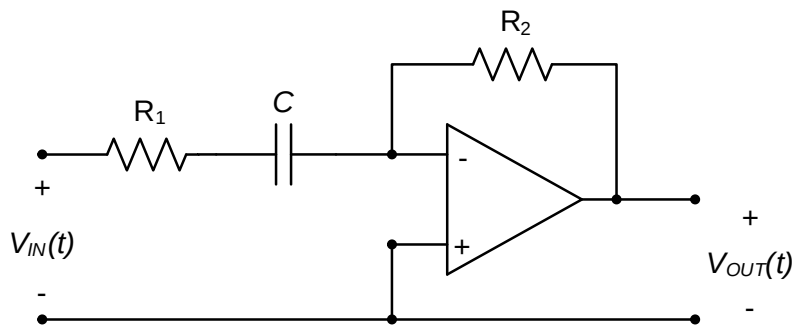

Figure 1. Inverting high-pass filter circuit.
- Input resistance: the input resistance is the ratio of input voltage to input current for a circuit. In the circuit of Figure 1, the input resistance is dependent upon both the capacitance and the frequency. However, at high frequencies, the capacitor behaves like a short circuit, and the input resistance is essentially the resistance R_1 .
- High frequency gain: the high frequency gain (the gain as $\omega \rightarrow \infty$) is, from equation (2), the ratio of R_2 to R_1 . Once R_1 is determined from the input resistance requirement, the high frequency gain specifies the required value for R_2 .
Design the circuit of Figure 1 (e.g. choose values for R_1 , R_2 , and C) to meet the following design requirements:
Determine the response of the circuit of Figure 1 to a DC input voltage. What will the circuit's response be to the DC voltage provided by the sensor?